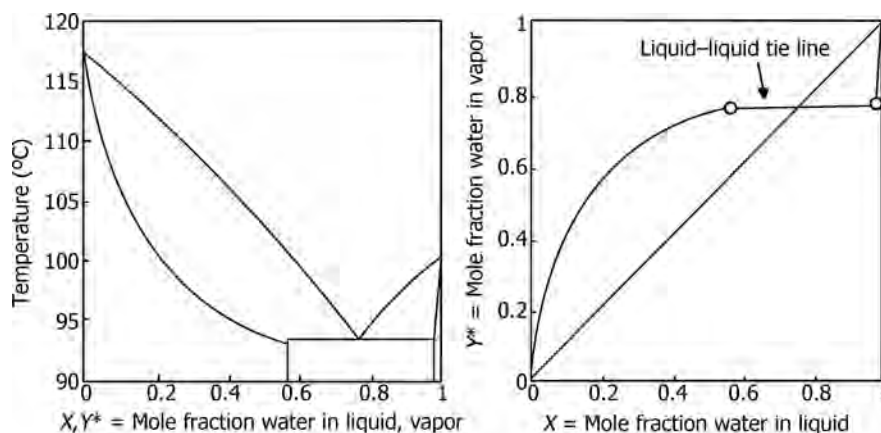

FIGURE 17.30 T - x - y and x - y diagrams for water-1-butanol system at 101.3 kPa. Note: The diagrams are based on NRTL equation.
- 1-Butanol–water system is an example of a heterogeneous azeotrope (Figure 17.30).